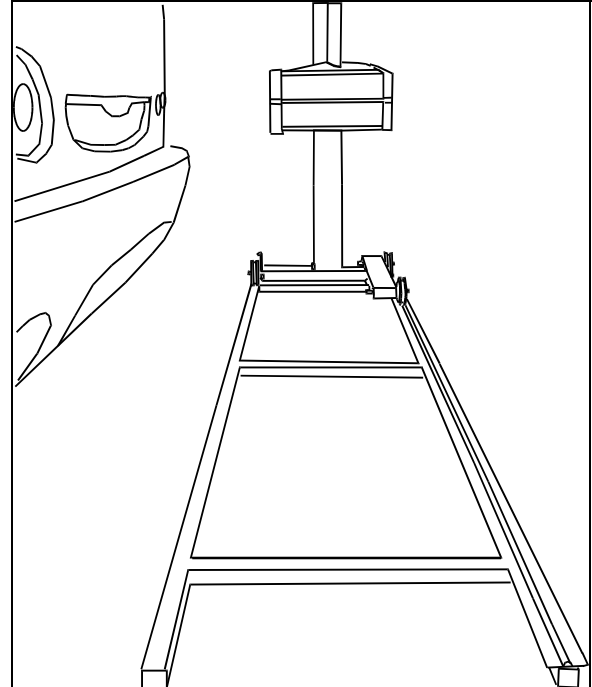

FIGURE 42: INSTALLATION OF HOOPY 100 ALIGNER 06496
5. Install "Hoopy 100" Aligner onto support rail (Figure 42).
3. Install “Hoopy 100” Aligner onto support rail (Figure 42). Turn aligner ON.